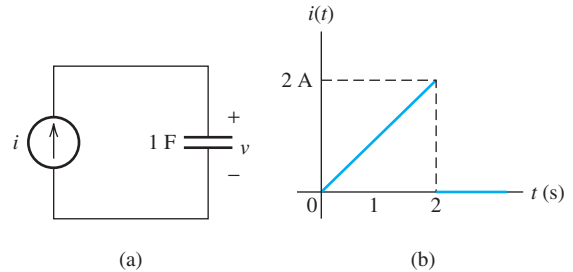

FIGURE P4.16 (a) Capacitor circuit; (b) waveform of $i(t)$.
- 4.16 (H) For the circuit shown in Figure P4.16(a), $i(t)$ is given in Figure P4.16(b). Assume the initial value of v , $v(0) = 0$.